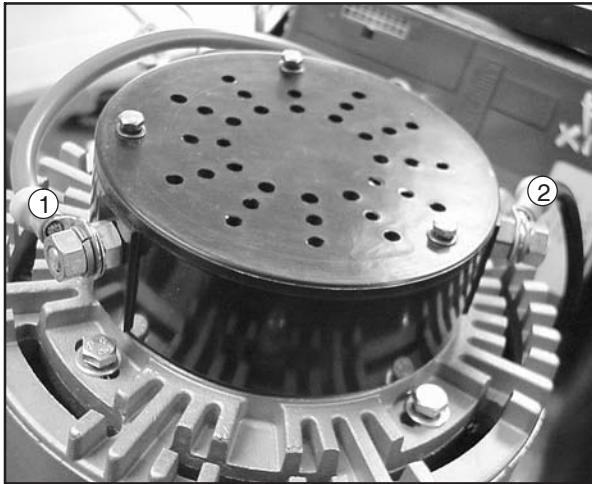

Fig. 42
1. Assemble brush box to motor, Fig. 42.
2. Install red (1) and black (2) wires at brush box terminals.